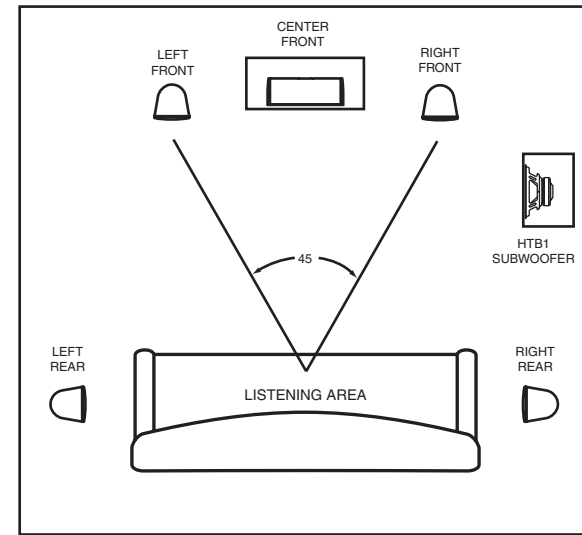

Figure 1- Typical loudspeaker placement in a home theater system.
**Figure 1** illustrates the most generally accepted speaker locations for a home theater system. Although there are an infinite number of set up options using **Figure 1** as a template will certainly provide a great starting point. Experimentation with slightly different speaker locations may provide improved performance in your specific listening environment.